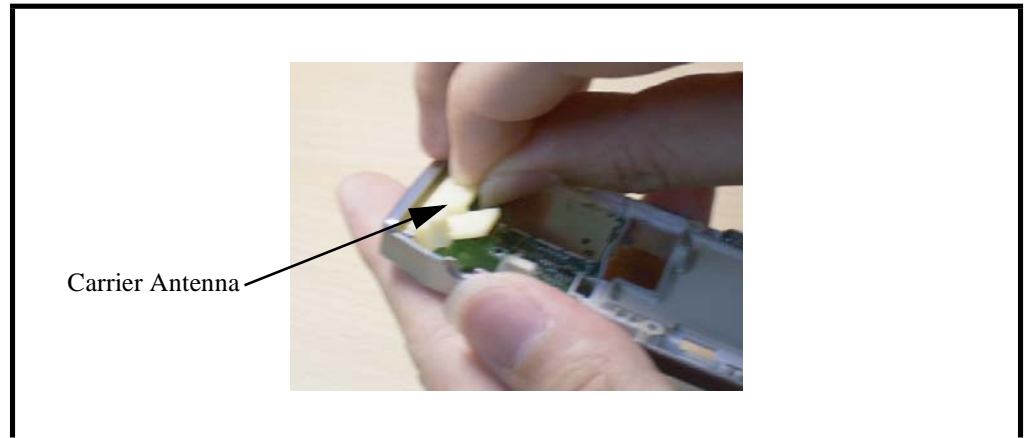

Figure 19. Removing the Carrier Antenna
2. Disconnect the carrier antenna from the rear housing cover as shown in Figure 19.